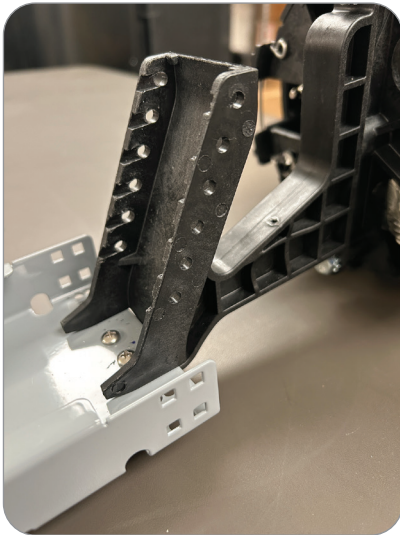

Figure 1
- Apex X-2/X-2S style trays can be installed onto a FOSC B style yoke with an Apex adapter. (Figure 1 and 2)